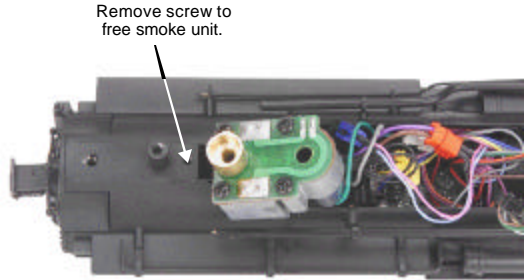

Figure 14: Accessing the Smoke Unit
1. Once the boiler has been removed, remove the inspection cover (Fig. 14). Inspect the wick; if it is darkly discolored and hard, it should be replaced.